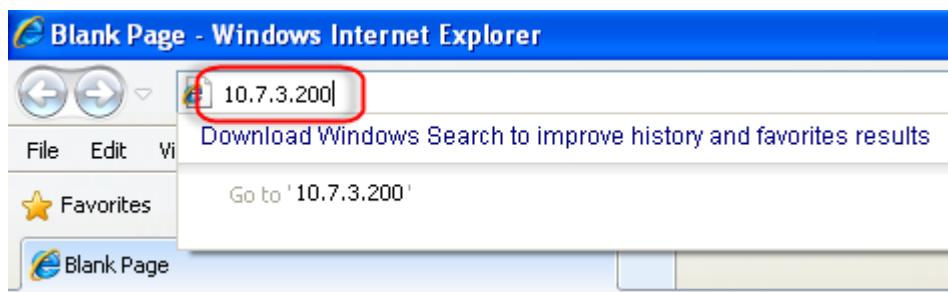

Figure 2-2 Web Browser OMT Connection for Wired Access
4. Open a browser window and enter the default gateway in the navigation bar. This will access the WebOMT page. Figure 2-2 shows an example using 10.7.3.200 as the default gateway.